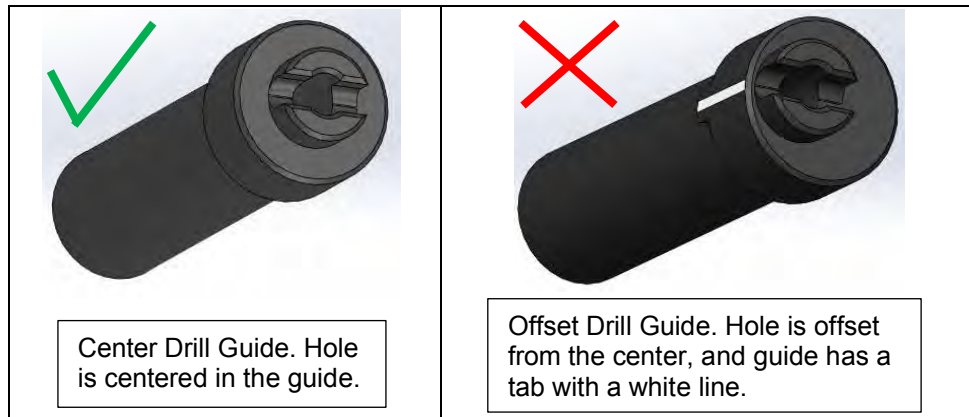
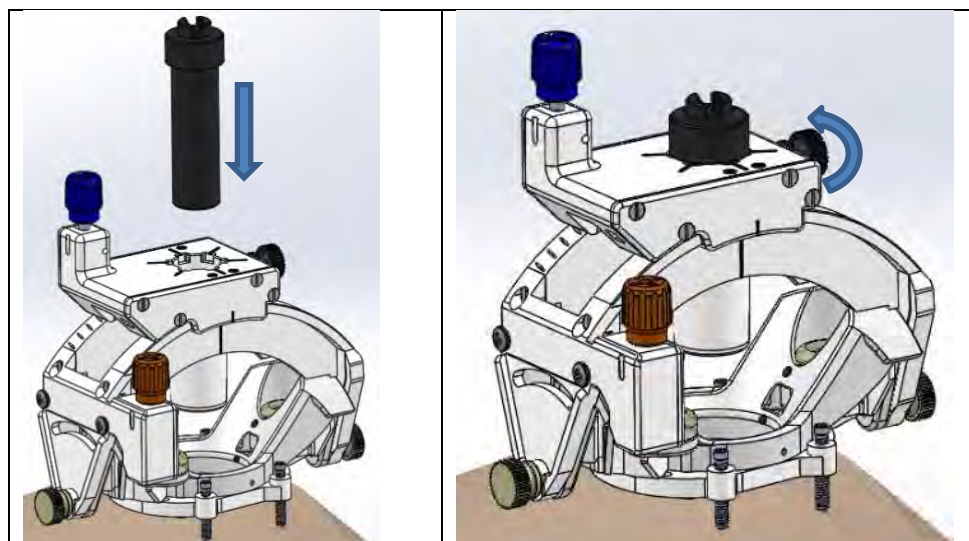

Figure 14: Center Drill Guide (Left) and Offset Drill Guide (Right). Only use the Center Drill Guide if creating an access hole in the OR.
Figure 15: Inserting the Center Drill Guide into the SMARTFrame Array Tower
10. If creating the access hole in the Operating Room, insert the Center Drill Guide (see Figure 15), which is colored black and has a hole through its center with a slotted feature on the top surface. **See Figure 14 (Left). DO NOT use the Offset Drill Guide at this time.** The Offset Drill Guide has a tab with a white line and a hole that is not centered within the Guide. **See Figure 14 (Right).**